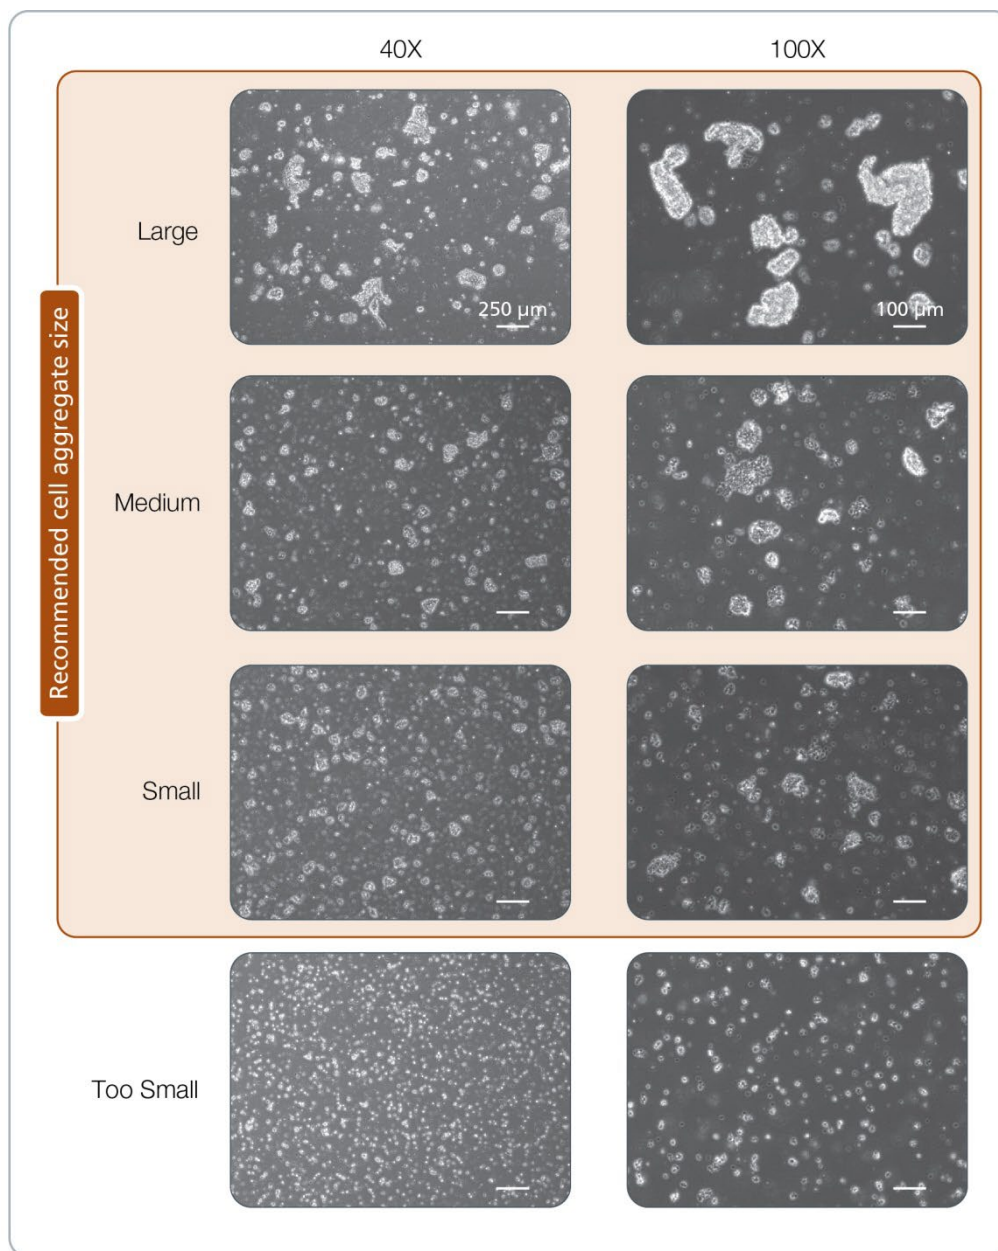

Figure 13. Acceptable Size Range for Cell Aggregates at the Time of Plating
*Number can be adjusted to obtain desired cell aggregate size (section 6.1). Refer to Figure 13 for examples of appropriate cell aggregate sizes, and adjust procedure as necessary to achieve desired results.
Culturing hESCs and hiPSCs in mTeSR™1 allows some flexibility in the passaging schedule, as cultures can be passaged between 4 and 7 days after plating in mTeSR™1. The next time the cells are ready for passaging depends on the size and density of the plated cell aggregates. For example, if large cell aggregates are plated at a high density, the next passaging time will most likely occur on day 4 or 5, whereas if small cell aggregates are plated at a low density, the next passage will most likely occur on day 6 or 7 (Table 5). For representative images of large and small cell aggregates, see Figure 13. Regardless of the plating density and cell aggregate size used, the majority of colonies should be densely packed and multi-layered in the center when ready for passaging.
*For representative images see Figure 13.
At the time of plating, the desired cell aggregate size can be obtained by adjusting the number of times the cell aggregate suspension is pipetted up and down (Table 4). Refer to Figure 13 for a recommended range of cell aggregate sizes. Do not generate single cells.